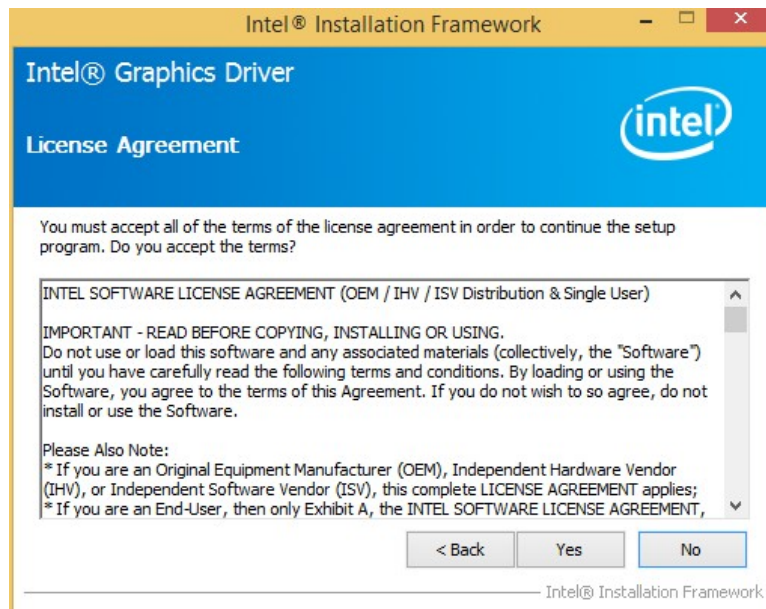

Figure 6-9: Graphics Driver Read Me File
Step 6: The **License Agreement** in **Figure 6-9** appears.